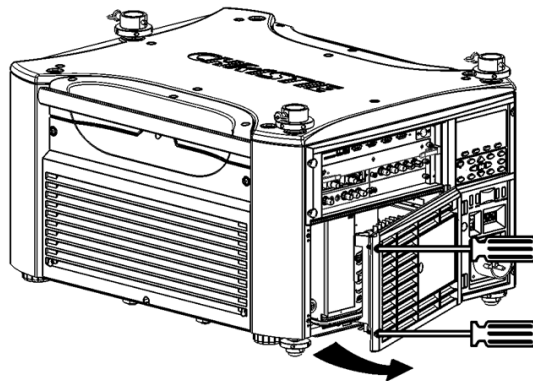

FIGURE 4-1
Using a #2 Phillips screwdriver, loosen the two (2) lock screws securing the lamp door, which is located at the rear of the projector below the Input panel. See *Figure 4-1*.